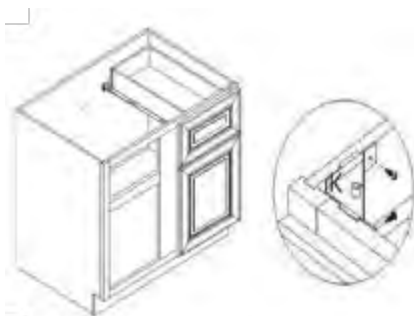

Figure 9
**8. Installing the Corner Braces (Figure 9) and inserting the Drawers:** Place the corner braces (K) on each top corner of the cabinet and secure them with the 1/2" Corner Brace Screws. Slide the drawers into the rail and check the drawer position and adjust slide rail location for best operation if necessary. The 2" screws are used for connecting corner braces and the countertop.